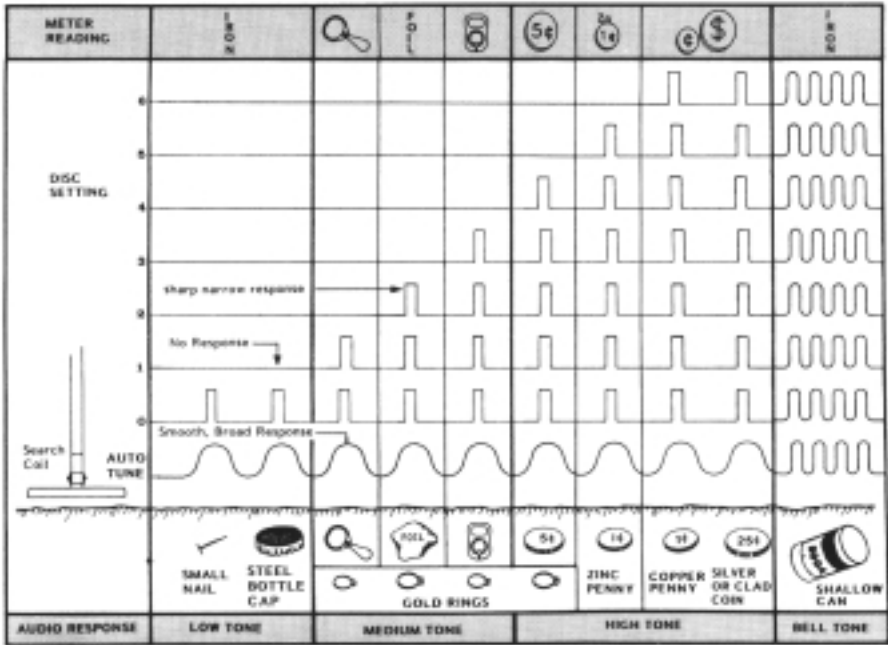

Figure 4. Typical 1212-X audio responses over 1-inch deep targets with search coil sweeping 2 to 3 inches above ground.
7. Figure 4 shows some different responses you may expect at different levels of discrimination. Note that as you increase the discrimination level, you progressively eliminate more targets including some good ones, such as nickels and gold rings.
**4. ELONGATED FERROUS OBJECTS:** If you hear two beeps very close together and can't find either one, you're probably over a nail (see Figure 4) or some other long iron object. But a very shallow coin or a buried coin on edge may give the same response. In all cases, the target will be between the beeps or, if you sweep at right angles to your original direction, you'll receive a single beep directly over the target (except for the very shallow coin). One way to tell the difference between a coin and a nail is to set your trash rejection to about